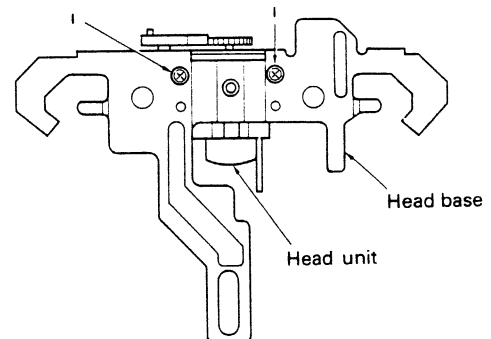

Fig. 9
4. Remove the two screws labeled "I" and the Mylar tape affixing the head leads (Figure 9). Unsolder the four head leads. The head unit can now be replaced.